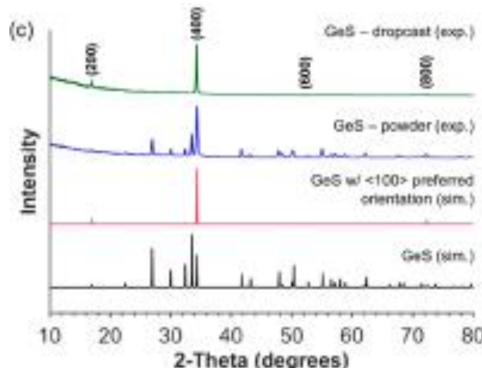

Figure 2.10: Preparation strategies vs. XRD clarity.
- If you look at the set X-ray diffractograms in Figure 2.10, you will see that certain synthetic techniques give better results.